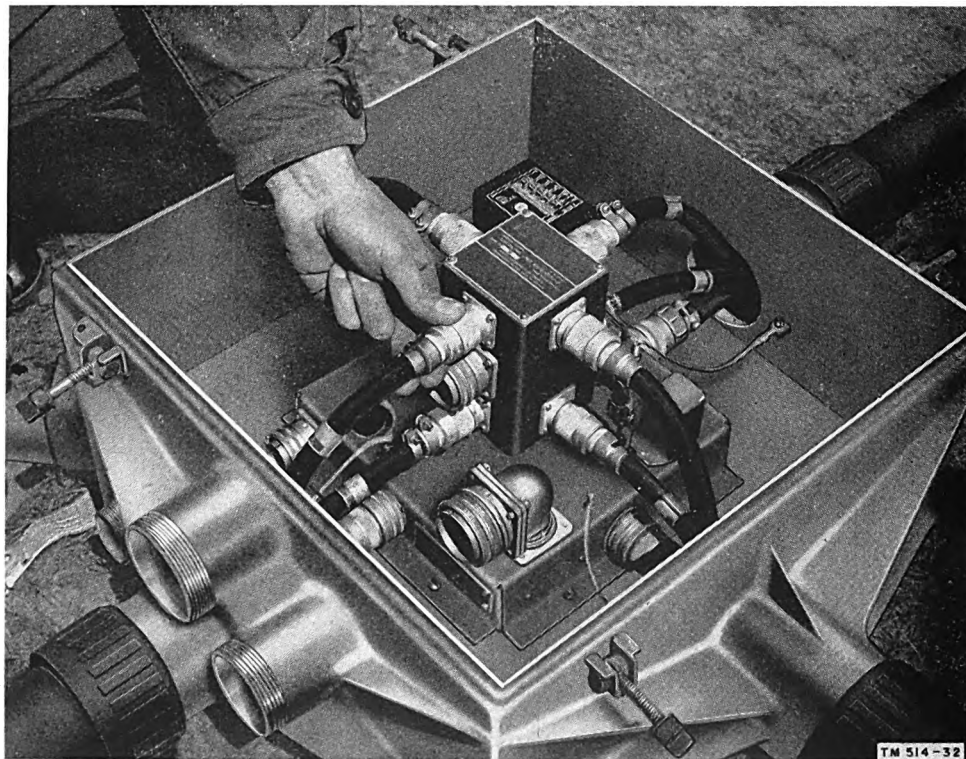

Figure 31. Connecting r-f cable to Coupling Unit CU-68/CRD-2 (or CU-69/CRD-2).
- (c) Plug the four red r-f plugs into their respective red chassis connectors near the top of the coupling unit and *thread all the way*. (See fig. 31.)
- (5) At Antenna Coupling Unit CU-34/CRD-2 in each antenna support—